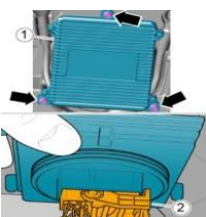

Figure 1
- Referring to Figure 1 - Using an external torx socket - Remove (x3) fixings (1.5 Nm) and carefully extract the control unit (1) to gain access to the harness connector (2)